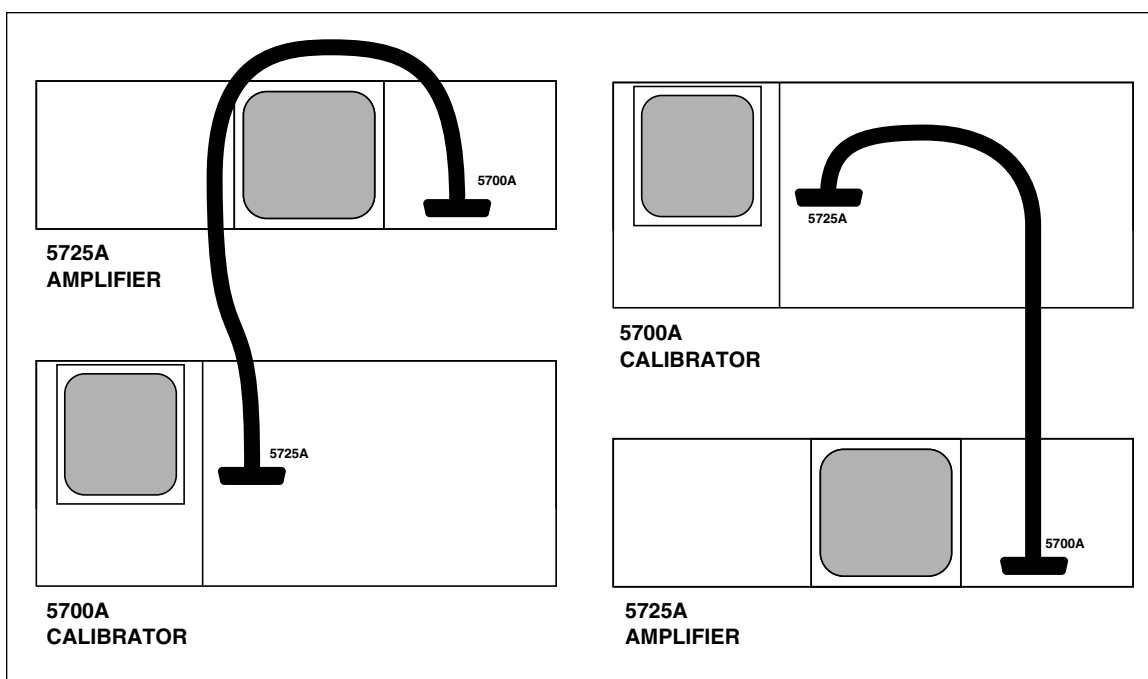

Figure 2-2. Correct Way to Dress Interface Cable
2. Connect either end of the interface cable to the 5725A connector labeled 5700A. Dress the cable only as Figure 2-2 shows. The figure shows how to dress the cable in installation arrangements with the 5725A on top or bottom.